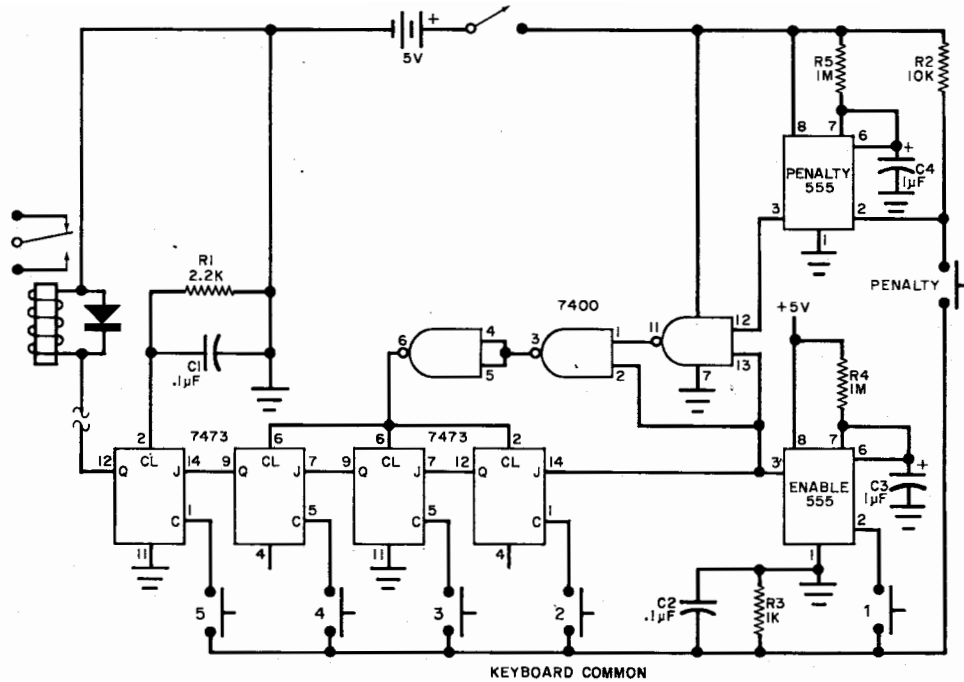

Fig. 4. Schematic diagram for an electronic lock.
**Reader's Circuit.** Submitted by a 17-year old reader, David Wang (1490 Waukazoo Drive, Holland, MI 49423), the digital electronic lock circuit illustrated in Fig. 4 features inexpensive 7400 series TTL IC's in conjunction with a pair of type 555 timers. David writes that he assembled his original model for under five dollars by using an inexpensive surplus "4-banger" calculator keyboard for his basic switch array. In operation, the lock is opened (i.e., the external sensitive relay is activated) when a five-number combination is entered within a specified time limit. No number may be entered twice or out of sequence. If any number not in the combination is entered, a "penalty" delay is activated which prevents circuit operation for, during the penalty period, the lock circuit is held in reset and not even the right sequence will activate it. The combination of a limited operational time once the initial key is pressed and an unknown penalty time if a wrong key is pressed makes the lock exceedingly difficult to defeat by "guess" and manipulation.